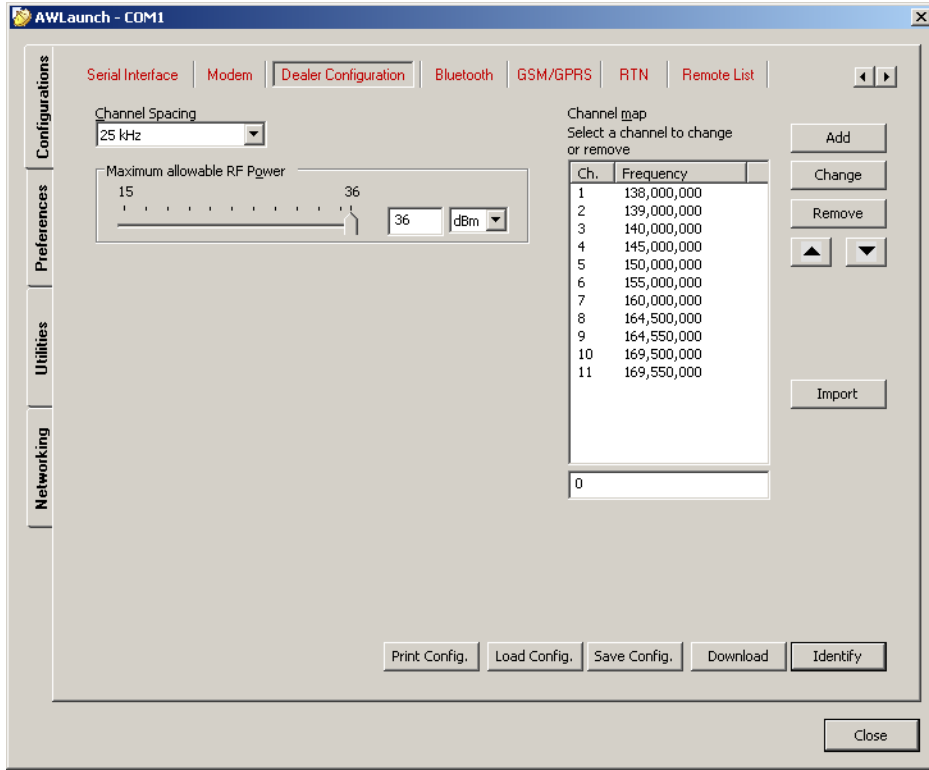

Figure 2-8. Dealer Configuration tab
7. In the *Dealer Configuration* set the channel spacing and fill in the channel map (the list of frequency channels). See Figure 2-8 on page 22.